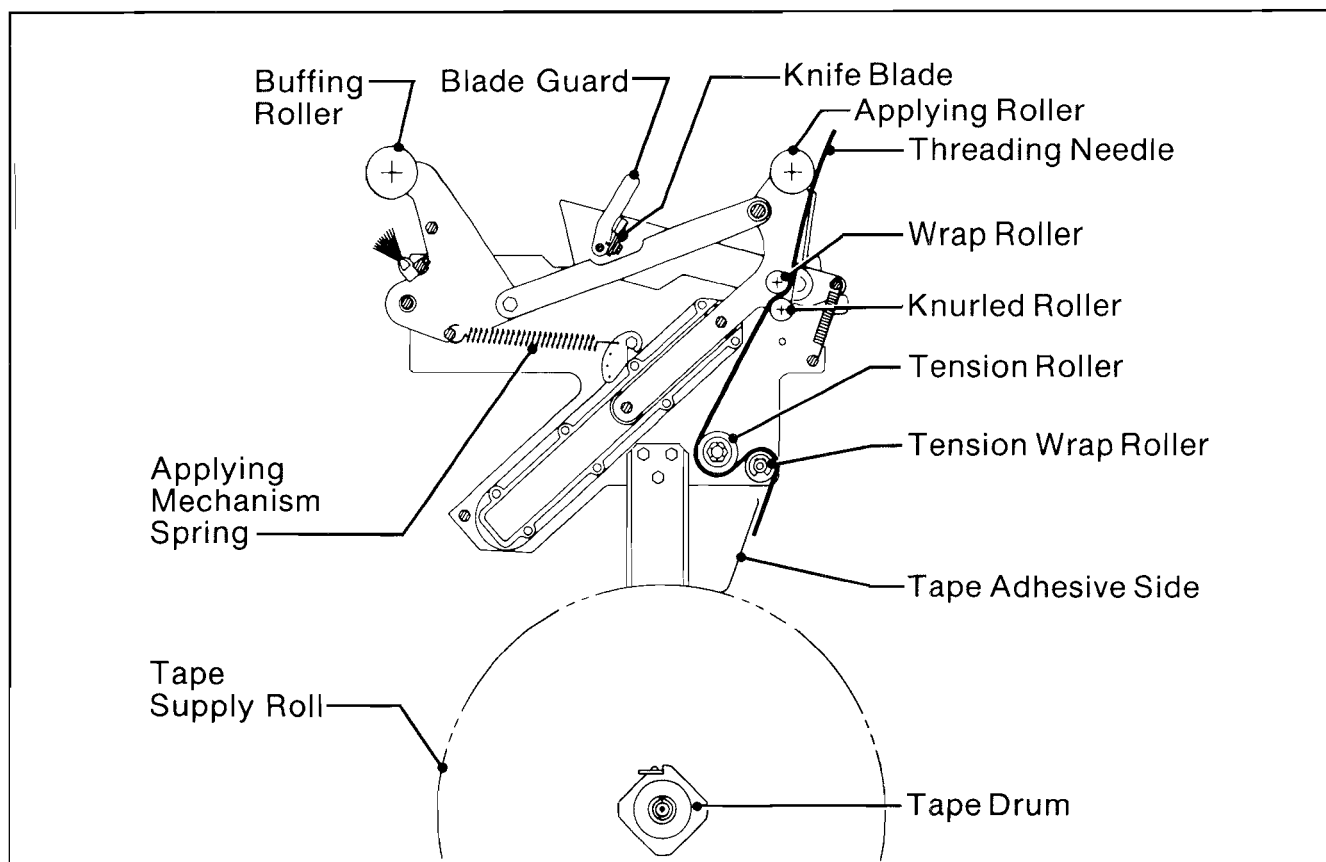

Figure 8A - Tape Threading Diagram - Bottom Taping Head - Left Side View
1. BOTH THE TOP AND BOTTOM TAPING HEADS UTILIZE EXTREMELY SHARP KNIFE BLADES ON THE ORANGE CUTTER LEVER ASSEMBLY AND WHICH ARE LOCATED UNDER THE BLADE GUARD WHICH HAS THE "CAUTION - SHARP KNIFE" LABEL. BEFORE WORKING WITH THE TAPING HEADS OR ATTEMPTING TO LOAD THE TAPE, REFER TO FIGURE 8A AND IDENTIFY THE BLADE LOCATION. KEEP HANDS OUT OF THESE AREAS EXCEPT AS NECESSARY TO SERVICE THE TAPING HEADS.
Refer to Figure 8A